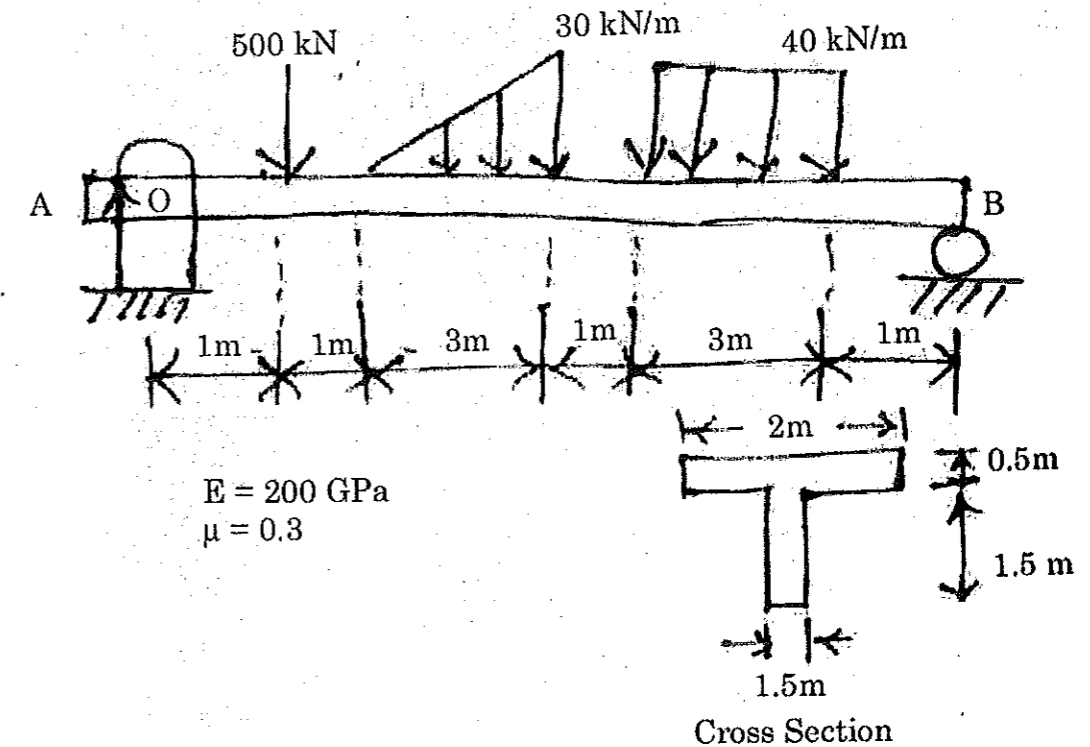

Fig. 16 (a)
16. a) With the help of any one FEA software discuss the following problem while solving for the figure 16 (a).